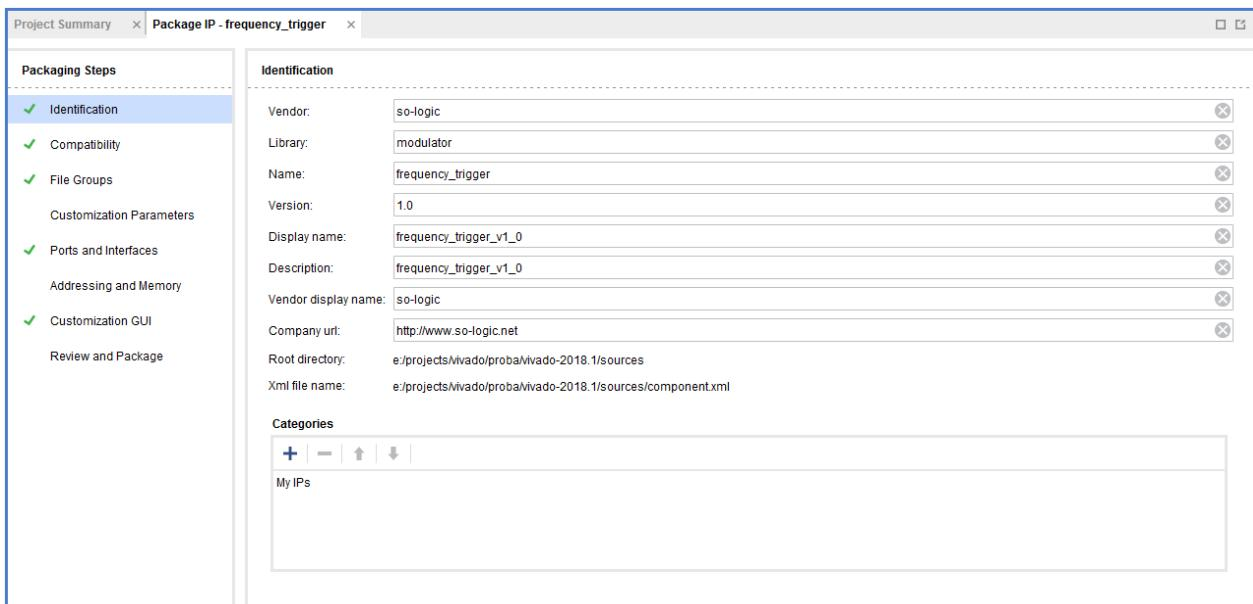

Figure 12.19: Identification window
19. In the **Package IP** dialog box, click **OK** and **Package IP - frequency_trigger** window will automatically appear on the right side of the Vivado IDE, see Figure 12.19.
20. In the **Package IP - frequency_trigger** window, in the **Identification** section, fill in fields as it is shown on the Figure 12.19.